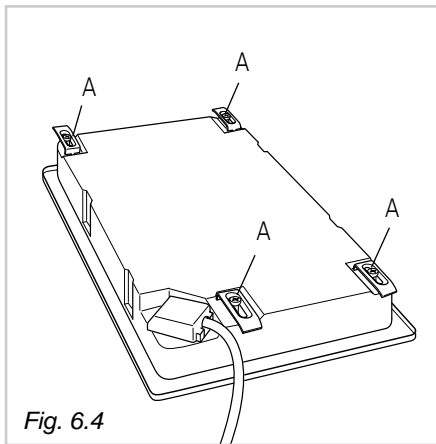

Fig. 6.4
(fig. 6.4)
- ✓ Turn the cooktop over and put tabs "A" (fig. 6.4) into the mountings, only tighten screws "B" a few turns. Make sure that the tabs are mounted correctly as shown in the figure 6.4. Turn the tabs so that the cooktop can be put into the hole.